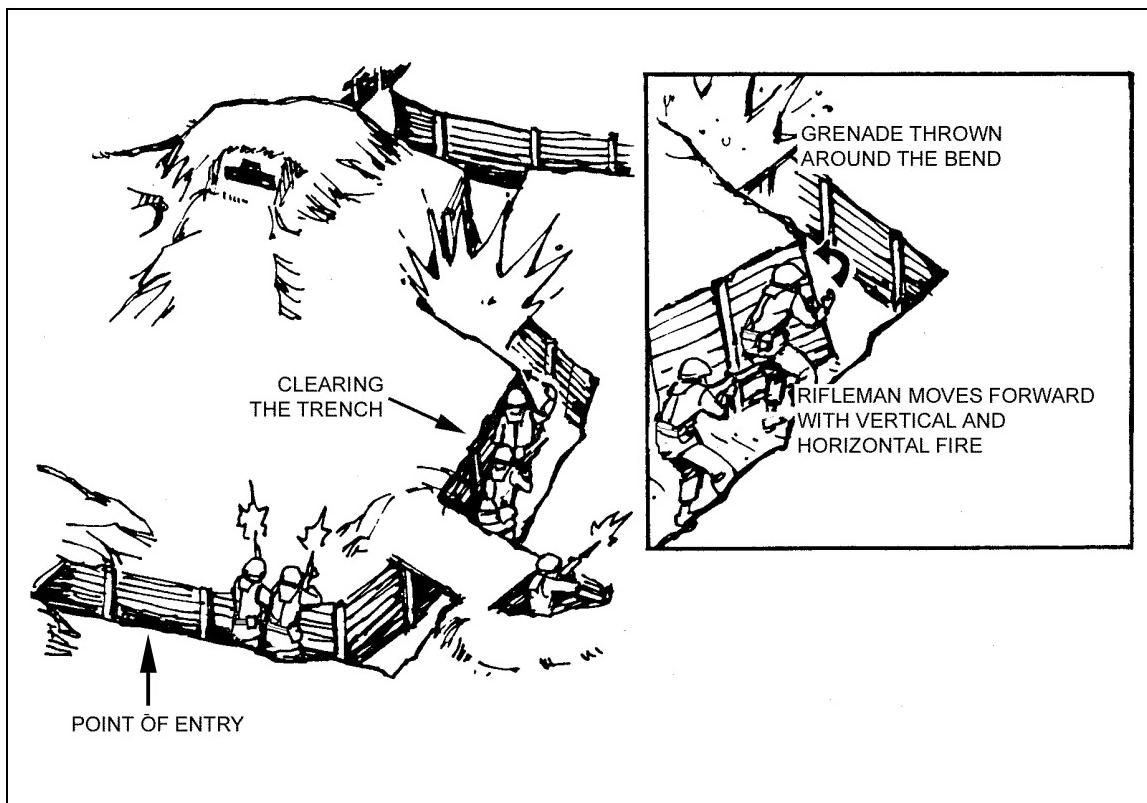

Figure 3-8. Enemy trench assault.
- d. In the assault, the soldier participates as a squad member in clearing trenches, destroying bunkers, and clearing rooms. The soldier employs unit procedures, which have been rehearsed during preparation for combat. In clearing a trench within a fortified position (Figure 3-8), the buddy team forms the basis for all fragmentation grenade employment in the following manner: